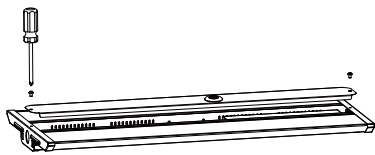

Figure 9
Step1.Open the face cover with screw driver;(Figure 9)